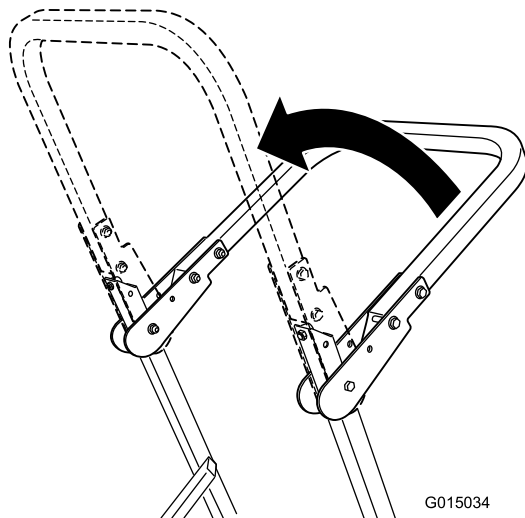

Figure 2
2. Raise the roll bar to the upright position (Figure 2).